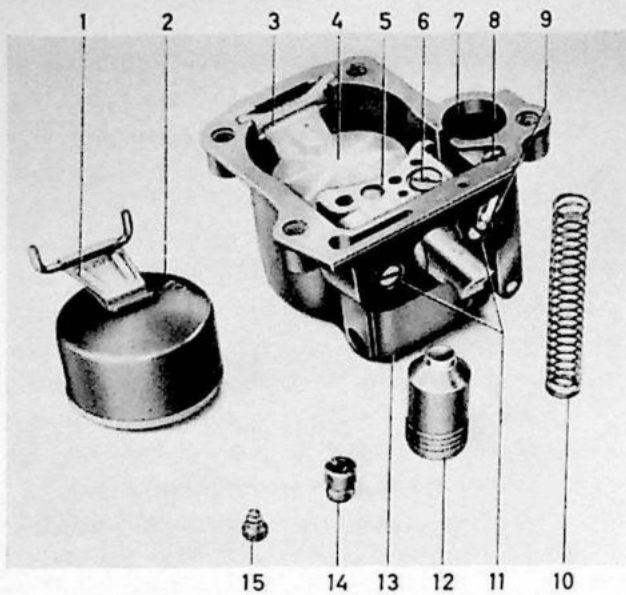

Fig. 68. The float bowl disassembled.
1. Remove the four float bowl attaching screws and lift off the float bowl. See Fig. 68.
(1), the idling air jet (3) and the idling jet (4).
4. Remove the acceleration jet (9, Fig. 68), the outlet valve (8) and the check screw (15), the pump plunger (12) with the spring and then the inlet valve (14) located under the pump plunger.
3. Turn the float and float arm so that the marking "TOP" faces upwards in the case of the brass float. The spindle should be placed so that the end points upwards, see Fig. 68. Place the lock spring (3) correctly on the nylon float with the center bent downwards so that the spring is not clamped against the float valve. Check that the spring (10) is located so that it is guided by the inlet valve (14). The downward movement of the plunger can otherwise be prevented.